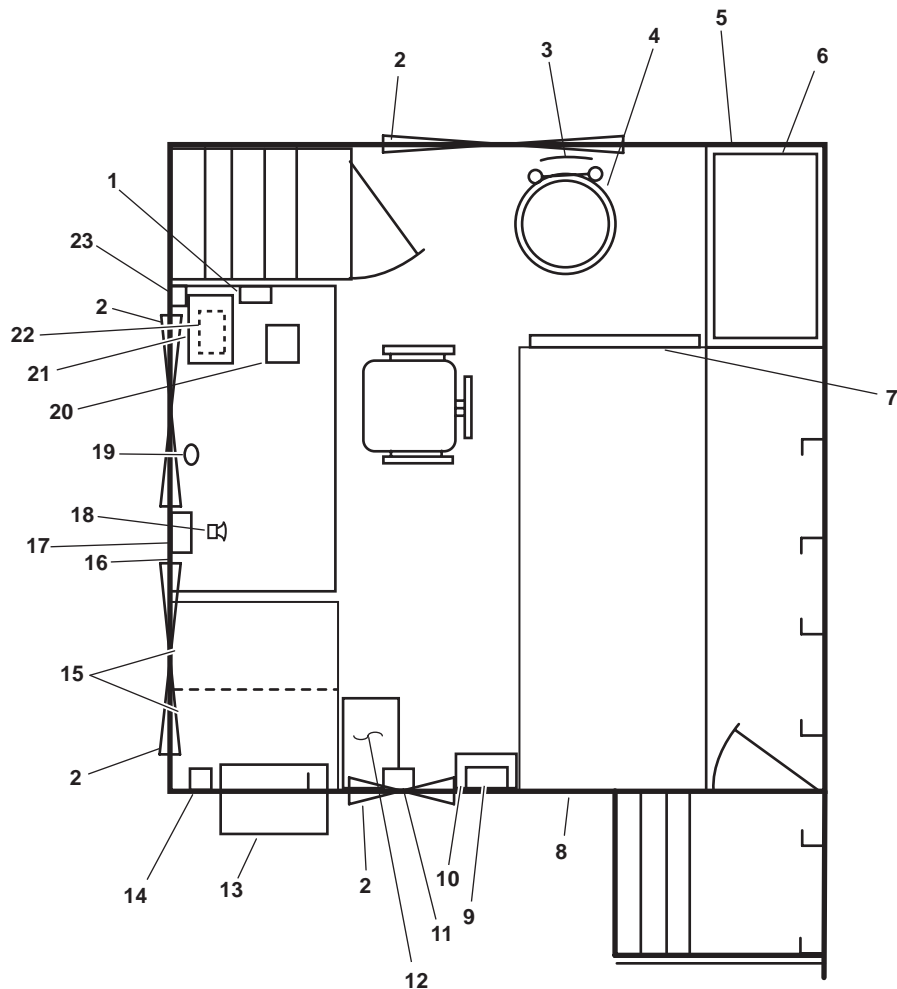

Figure 2. Enclosed Operating Station (EOS)
1. Sound powered telephone (figure 2, item 1). The sound powered telephone provides intraship communications.
2. Window (figure 2, item 2). The window allows observation of the engine room.
3. Vertical ladder (figure 2, item 3). This ladder provides an emergency exit from the EOS to the main deck.
4. Scuttle (escape hatch) (figure 2, item 4). The scuttle provides an emergency exit from the enclosed operating station.
5. Table/book rack (figure 2, item 5). The table/book rack is used for record keeping and storage.
6. Master tank level indicator receiver panel, 7-channel (figure 2, item 6). The master tank level indicator receiver panel has seven meters for remote monitoring of tank levels for the sewage holding tank, oily waste holding tank, potable water tanks, and ballast water tanks.
7. Fire and smoke detection panel, fire alarm bell, and key cabinet (figure 2, item 7). The fire and smoke detection panel provides controls and indicators necessary for controlling and monitoring the fire detection system.
8. Main switchboard (figure 2, item 8). The main switchboard includes facilities for the control of the SSDGs, including paralleling and power distribution (440 Vac).
9. Ship heel clinometer (figure 2, item 9). The ship's heel clinometer indicates the trim angle of the vessel.
10. Key box (figure 2, item 10). The key box provides a storage place for various keys.
11. Remote indicator (alarm) assembly (figure 2, item 11). The remote indicator (alarm) assembly monitors the effluent discharged by the oil water separator. The remote indicator (alarm) assembly emits an audible alarm when the selected alarm value is exceeded.
12. Special tools locker (figure 2, item 12). The special tools locker is located below the engine room EOS. The special tools locker contains shelves for storage of authorized special tools.
13. Air conditioner unit (figure 2, item 13). The air conditioner unit provides air conditioning for the EOS.
14. EOT wrong direction bell (figure 2, item 14). The EOT wrong direction bell indicates that the throttles are not set to desired speed/direction of the pilothouse EOT.
15. File cabinet (figure 2, item 15). The file cabinet provides storage space for records.
16. EOS console (figure 2, item 16). The EOS console houses central controls for the main engines and the machinery plant monitoring system.
17. Ship trim clinometer (figure 2, item 17). The ship's trim clinometer indicates the heel angle of the vessel.
18. Remote loudspeaker station (figure 2, item 18). The loud speaker station amplifies audio messages to the engine room.
19. General alarm bell (figure 2, item 19). The general alarm bell sounds the general alarm, indicating various conditions and emergencies.
20. Intercom (figure 2, item 20). The intercom provides communication from the rest of the vessel.